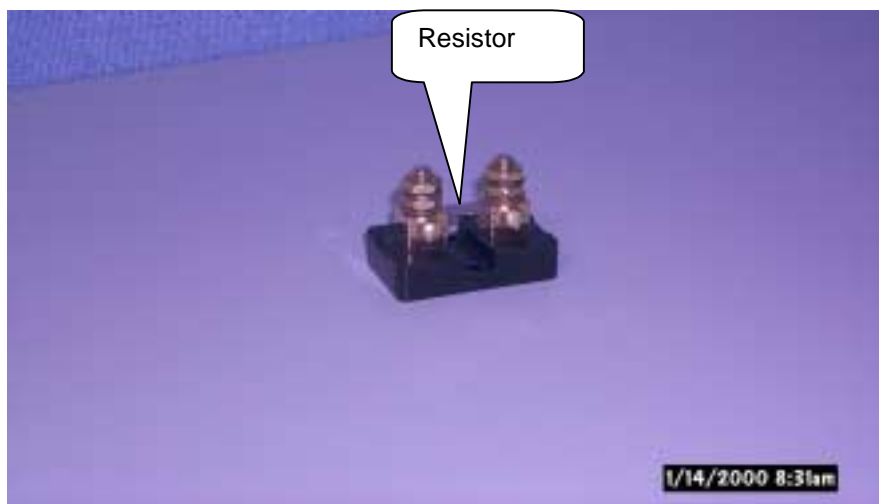

Fig. 1, Shunt
The Shunt has four (4) connections; two (2) connections for the incoming power and load; and two (2) for the Shunt signal. The Shunt signal has a high and low lead. The high Shunt signal is on the power side (of the resistor) and the low Shunt signal is on the load side (of the resistor). See Fig. 1 for illustration.